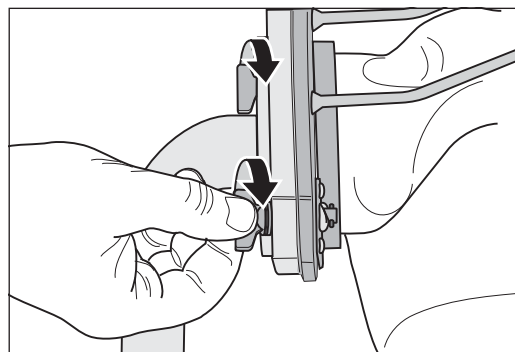

Fig. 6 Secure the dust bag using the quick-release fasteners.
- 6 Attach the dust bag to the locating flange using the two quick-release fasteners (fig. 6).